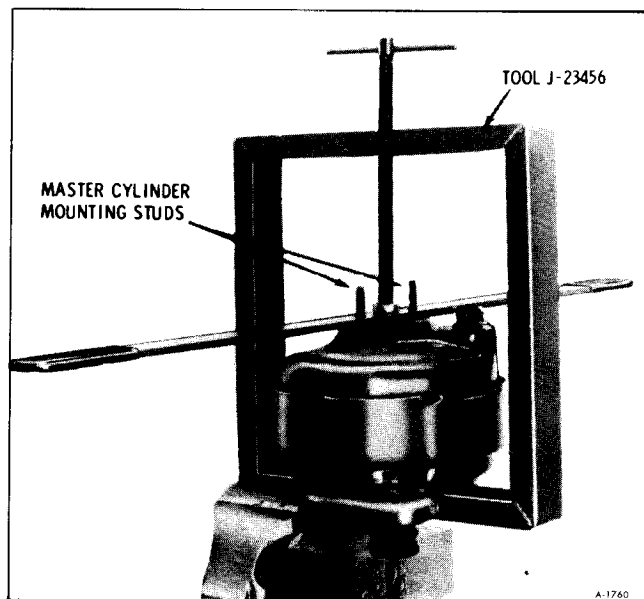

Figure 36-Separating Halves
4. Install Tandem Diaphragm Separating Tool J-23456 as shown in Figure 36.